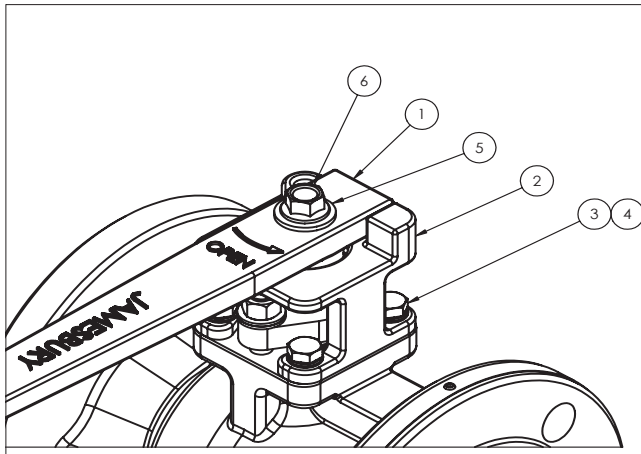

Figure 12. Handle Assembly
2. Lower the handle bracket (2) straight down in line with the valve stem until it is flat on the valve bonnet, and all four mounting holes align with tapped holes on the valve (see **Figure 12**).